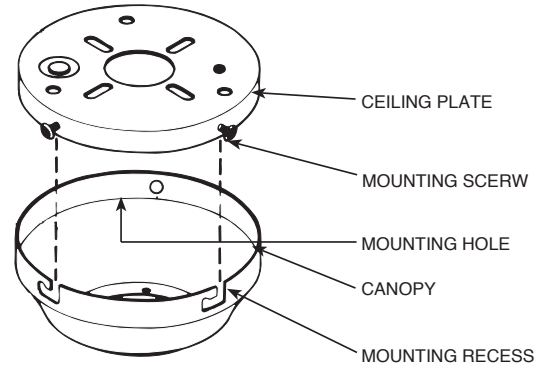

FIGURE 7
**A.** The ceiling plate has (6) mounting screw holes located on the side. Use (3) of the holes that are equal distance apart. Install (2) #10-32 x 1/2" Phillips round head screws halfway into two of these holes. See Figure 7.
Remove the fan from the ceiling plate hook. Make sure not to break any wire connections. The canopy has (2) mating slots and (1) mating hole. See Figure 7.